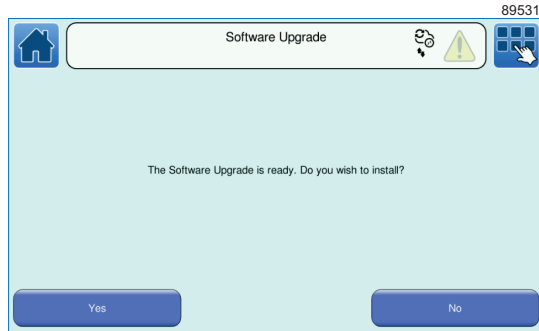

Figure 97. Software Upgrade Confirmation (Installation)
- 6 Touch the **Software Upgrade** option on the **Maintenance** screen again and follow the on-screen prompts (see Figure 97) to conduct the upgrade.